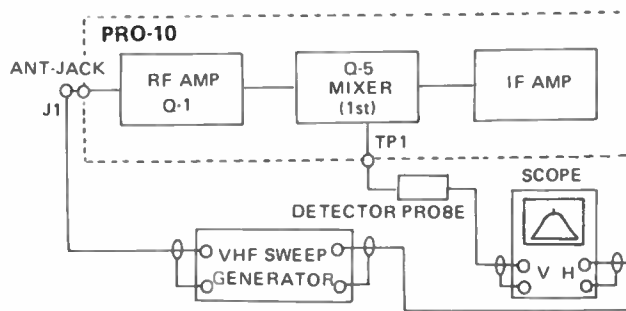

FIGURE 5. VHF RF ALIGNMENT TEST EQPT. HOOK-UP
- Step 1: Connect the instruments as shown in Figure 5.